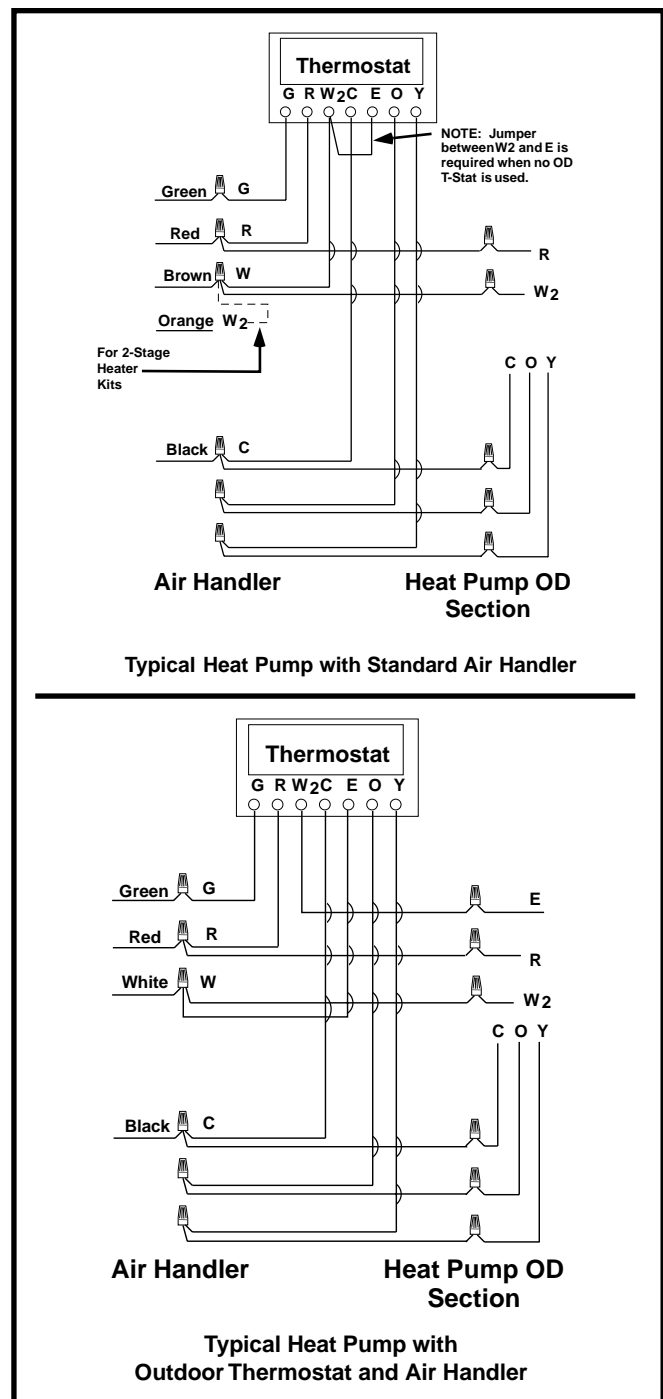

Figure 5. Typical Thermostat Connections
- Thermostat connections should be made in accordance with the instructions supplied with the thermostat and the indoor equipment. A typical installation with a heat pump thermostat and air handler is shown in Figure 5.